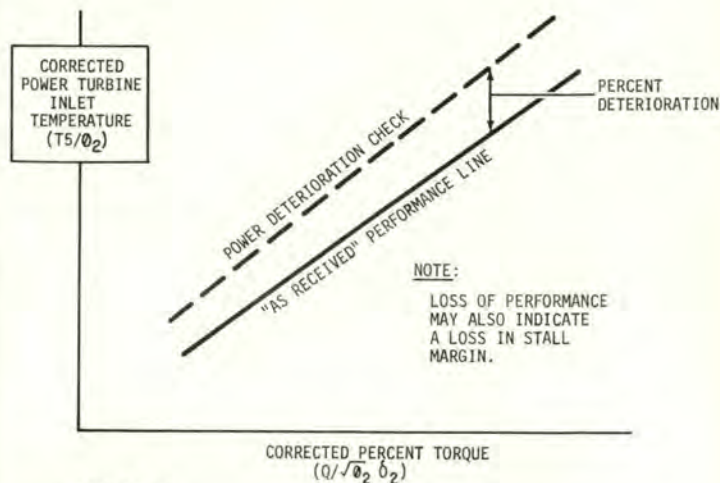

FIGURE 3
2. Perform periodic stall checks in the aircraft (Mechanical Stall Checker) or power deterioration checks to detect possible compressor damage or fouling. Power deterioration checks compare actual performance to previous "as installed" values. As loss of stall margin normally accompanies a drop in performance, power checks can define serviceability in the same manner as a stall check. See Figure 3.